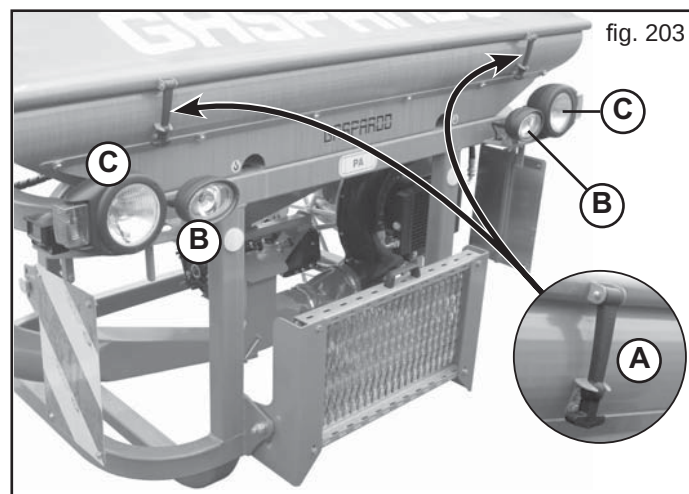

fig. 203
- 7) All road transport must only be carried out with the tanks and tanks empty and at max speed of 25 km/h. For the transport on the road it must be assured the cover with the appropriate one pulling of coupling (A, Fig. 203). Periodically, it is necessary to verify the degree of deterioration of pulling and to the occurrence to replace it.
- 10) When the dimensions of carried or partially-carried equipment conceal the tractor's signalling and lighting devices, these must also be installed on the equipment itself, in conformity with regulations of the highway code of the country involved. When in operation make sure that the lighting system is in perfect working order. The transport on the road must be done with light (B, Fig. 203) turned off. The orientation of the light (C, Fig. 203) must be done in conformity with regulations of the highway code of the country involved.